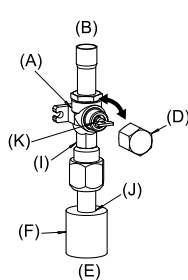

Fig. 4-6
- (2) Liquid side of RP100-140 and Gas/Liquid side of RP35-71 (Fig. 4-6)